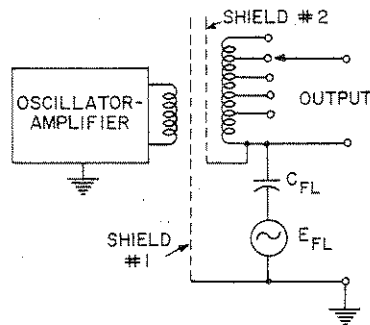

Figure 4-2. Simplified schematic diagram of output circuit.
4.2.3 OUTPUT TRANSFORMER. The winding resistance of the output transformer, T101, isolates the oscillator from the load and ensures that the output waveform will not be clipped under any load condition. The output winding is tapped to provide five switch-selectable, output-voltage ranges to match a wide variety of load requirements. The output winding is doubly shielded from the oscillator circuits for isolation, when the output is used off ground (floating). A simplified schematic diagram of the output circuit is shown in Figure 4-2.